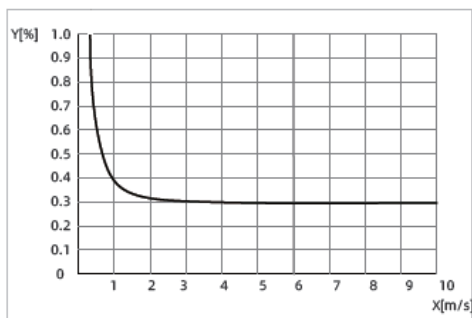

Figure 33
- Reference conditions - Figure 33